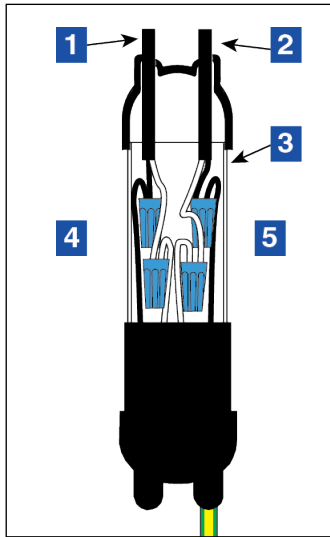

Figure 38. Splice Connections
- Make the connections to the four black and white wires in the surge protector using wire nuts as shown in Figure 38.
LEGEND FOR NUMBERED BOXES IN Figure 38